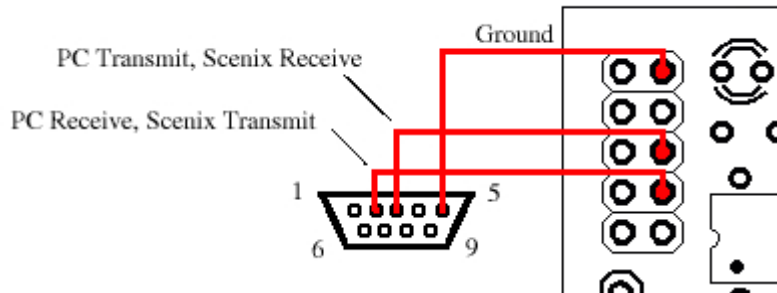

Figure 4
Step 1: If one does not already exist, build a serial and/or power cable as seen in Figure 4
If nothing happens check if power is connected (red LED), check baud rates of both the HyperTerminal and Board, check of connection is the same as Figure 4 and if the right COM port was selected